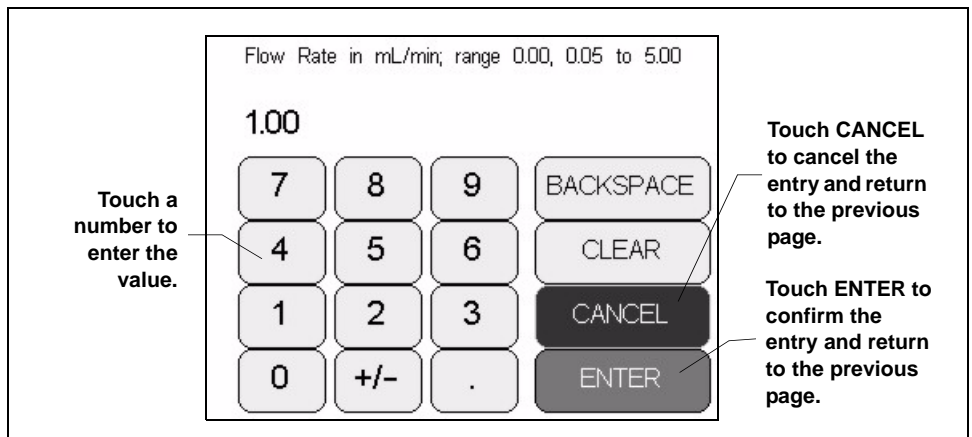

Figure 2-3. Number Keypad
- Touching an edit field (for example, **Flow Rate 0.00 mL/min**) opens a page with a number keypad (see Figure 2-3). Use the keypad to enter the desired numerical value for the field and then touch the **ENTER** button.